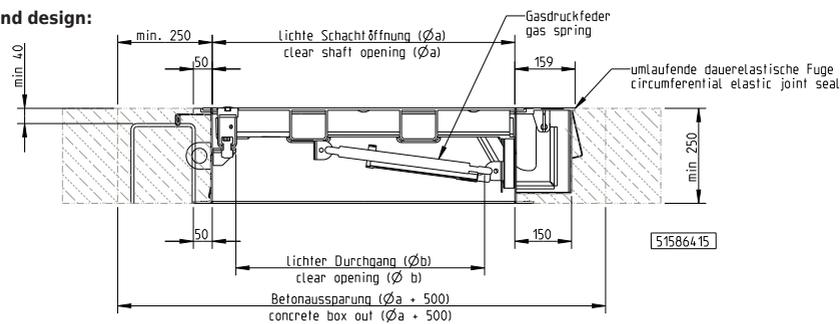

Fig. 2 – SD7.R embedded in concrete
3. Unlock the cover arrester as shown in figure 2. (Be careful when loosening the arrest to avoid the risk of crushing.)